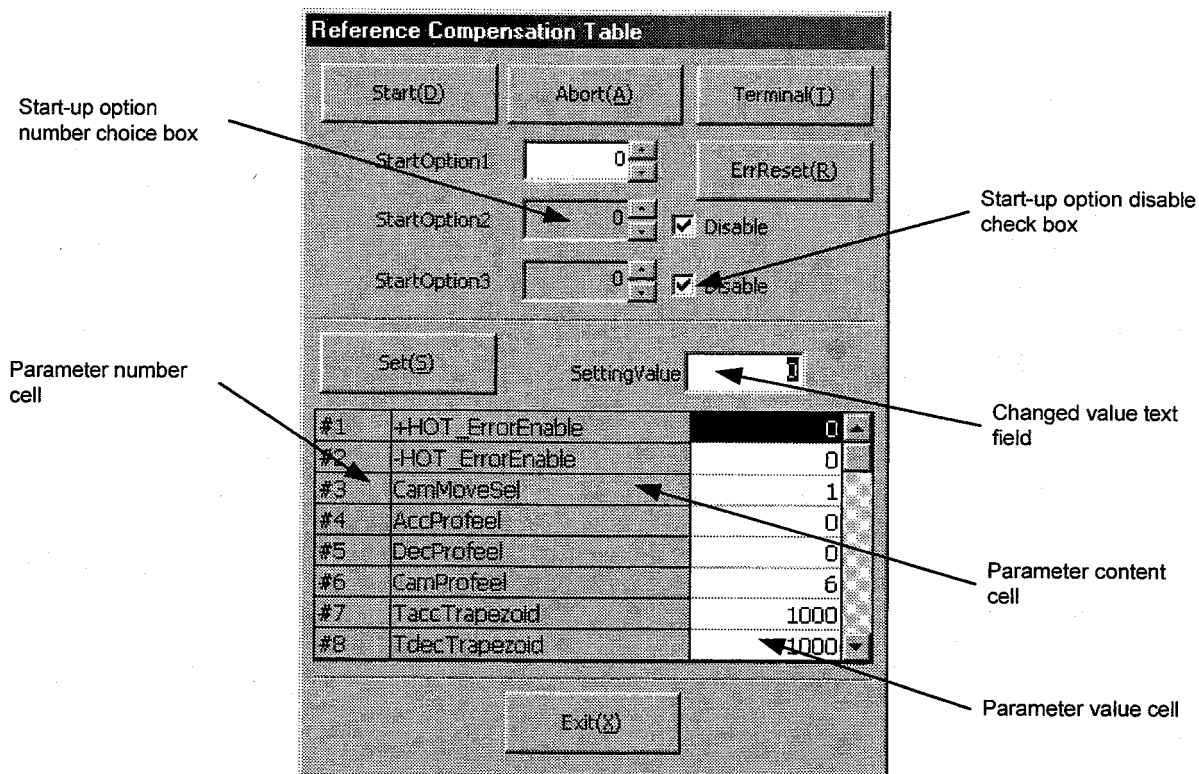

Figure 7.29 "Reference Compensation Table" dialog box
- 1) Click "*Terminal (T)*."
Click "Reference Table (R)" in the "DriveMenu" dialog box to display the "Reference Compensation Table" dialog box (see Figure 7.29). If the connection with the driver is established, the current values of the related parameters are read and can be edited.